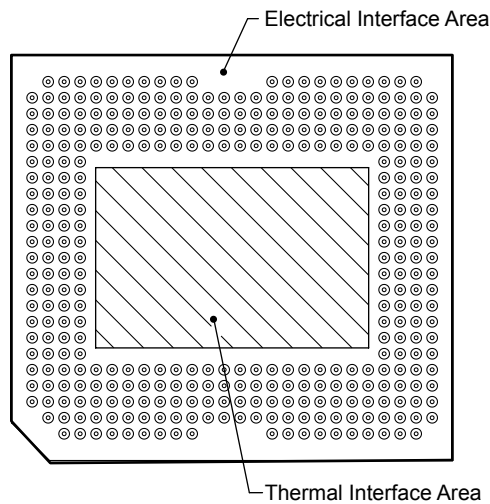

图 6-10. System Mounting Interface Loads
- (1) Uniformly distributed within area shown in 图 6-10